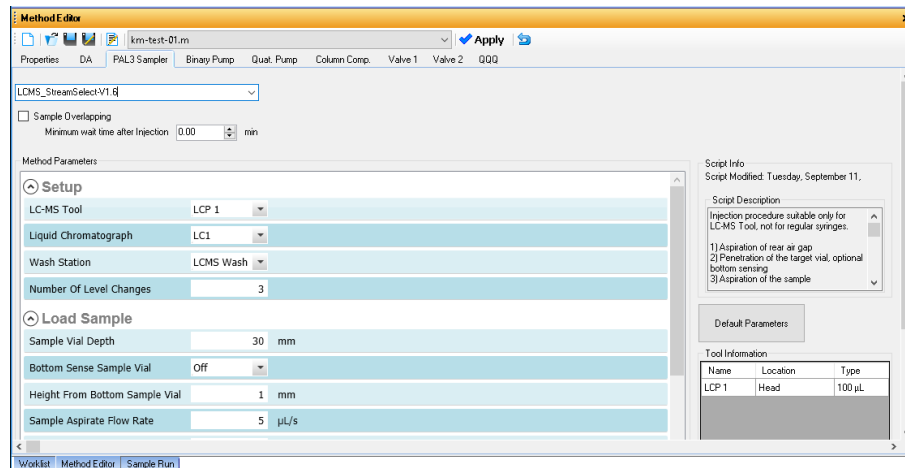

Figure 3. PAL3 Sampler tab to set script parameters
- b For PAL3 RSI autosampler, on the **PAL3 Sampler** tab, select a script from the drop-down list. See **Figure 3**.